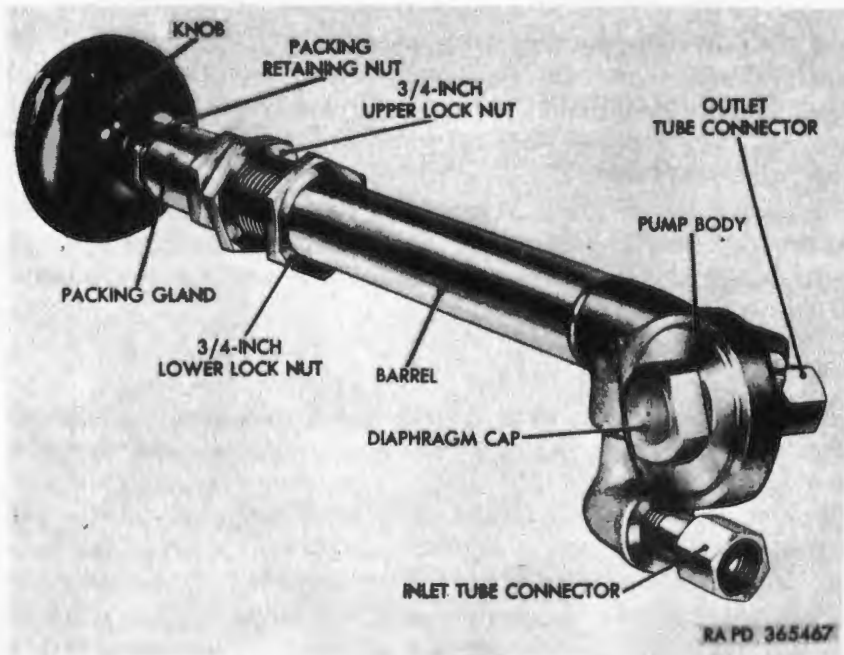

Figure 128. Primer Pump.
a. Removal. Turn inlet priming lines shutoff valve below the personnel heater in the driver's compartment in a clockwise direction until fully closed. Disconnect the primer outlet and inlet tubes from the primer pump body (fig. 128) connectors. Remove cotter pin from priming pump mounting bracket. Loosen pump barrel upper locknut and slide pump off mounting bracket.
b. Disassembly. Remove diaphragm cap (fig. 128) from pump body and lift out spring, guide, diaphragm, gasket, and screen. Unscrew knob from plunger and remove packing retaining nut from packing gland. Remove and discard packing rings and gasket from gland.
d. Assembly. Install in order, screen, gasket, diaphragm, spring guide, spring, and diaphragm cap in pump body (fig. 128). Insert new packing rings and gasket in packing gland and secure with packing retaining nut. Install knob on plunger.
e. Installation. Position primer pump onto mounting bracket and tighten $\frac{3}{4}$ -inch upper locknut (fig. 128). Install $\frac{3}{16}$ x $2\frac{1}{2}$ cotter pin in mounting bracket. Connect primer inlet and outlet tubes to primer body connectors. Turn inlet priming line shutoff valve in a counterclockwise direction until fully open. Test pump action and inspect connections for leaks.